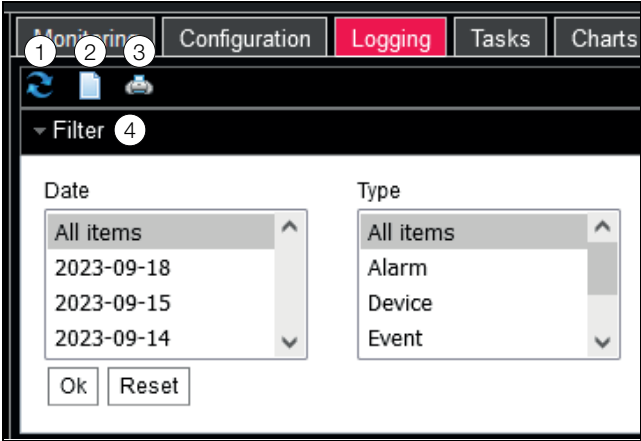

Fig. 69: Logging tab
- Click on the first symbol on the left (fig. 69, item 1).
- Click on the first symbol from the left (fig. 69, item 1).
- Click on the third symbol from the left (fig. 69, item 4).
- Click on the second symbol from the left (fig. 69, item 2).